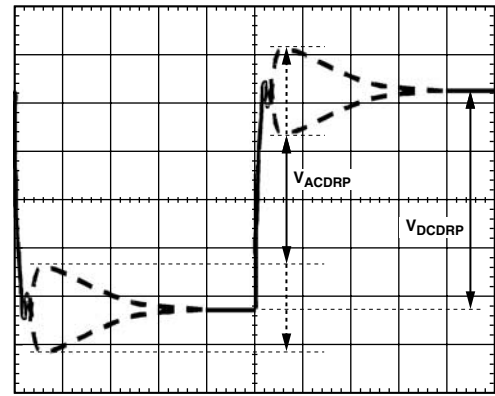

Figure 3. AC Loadline Waveform
Figure 3 shows the typical transient response using the compensation values.
15. The waveform should look something like Figure 3. Use the horizontal cursors to measure V_{ACDRP} and V_{DCDRP} as shown. **DO NOT MEASURE THE UNDERSHOOT OR OVERSHOOT THAT HAPPENS IMMEDIATELY AFTER THE STEP.**